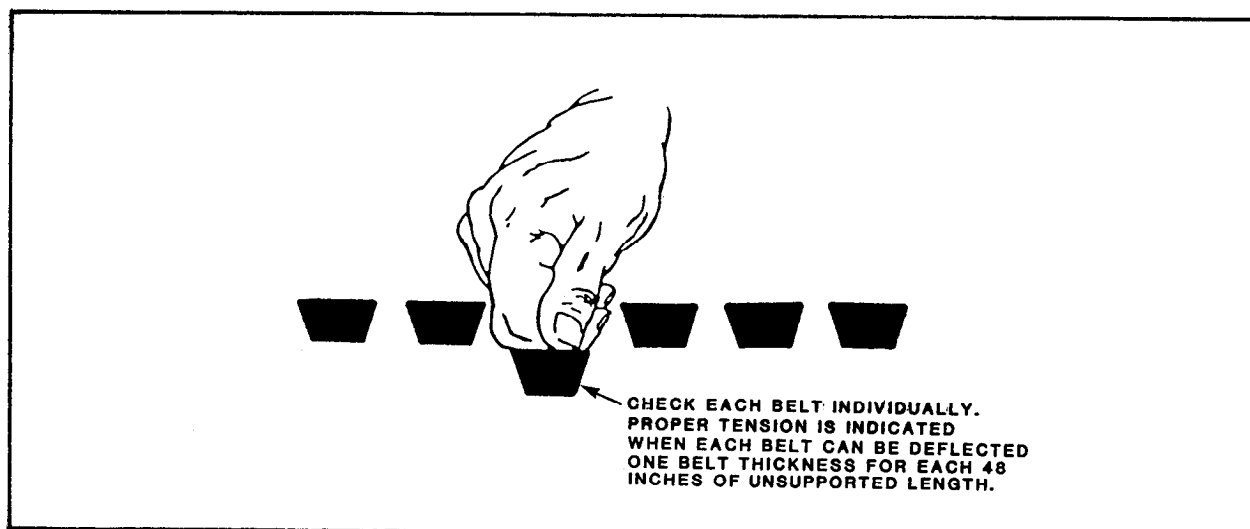

FIGURE 2-5. Method of Checking the Tension of V-Belts
8.7.1 Belt Sheaves. Check condition of belt sheaves when installing new belts. If grooves are worn, regroove or replace the sheaves. Worn grooves cause rapid belt wear. Sheaves should be clean and free of oil or grease. Belts should be installed by hand and not pried into place. After all belts have been installed, adjust the belt tensions (figure 2-5). Proper tension is indicated when each belt can be deflected one belt thickness for each 48 inches of unsupported length. After belts have been tensioned, check sheave alignment by placing a straight edge across the faces of the driving and driven sheaves. The straight edge should contact both sheaves squarely.